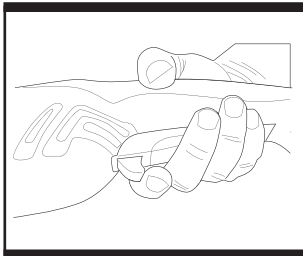

Fig. 3
3. DOUBLE ACTION ON/OFF SWITCH (Fig. 3)